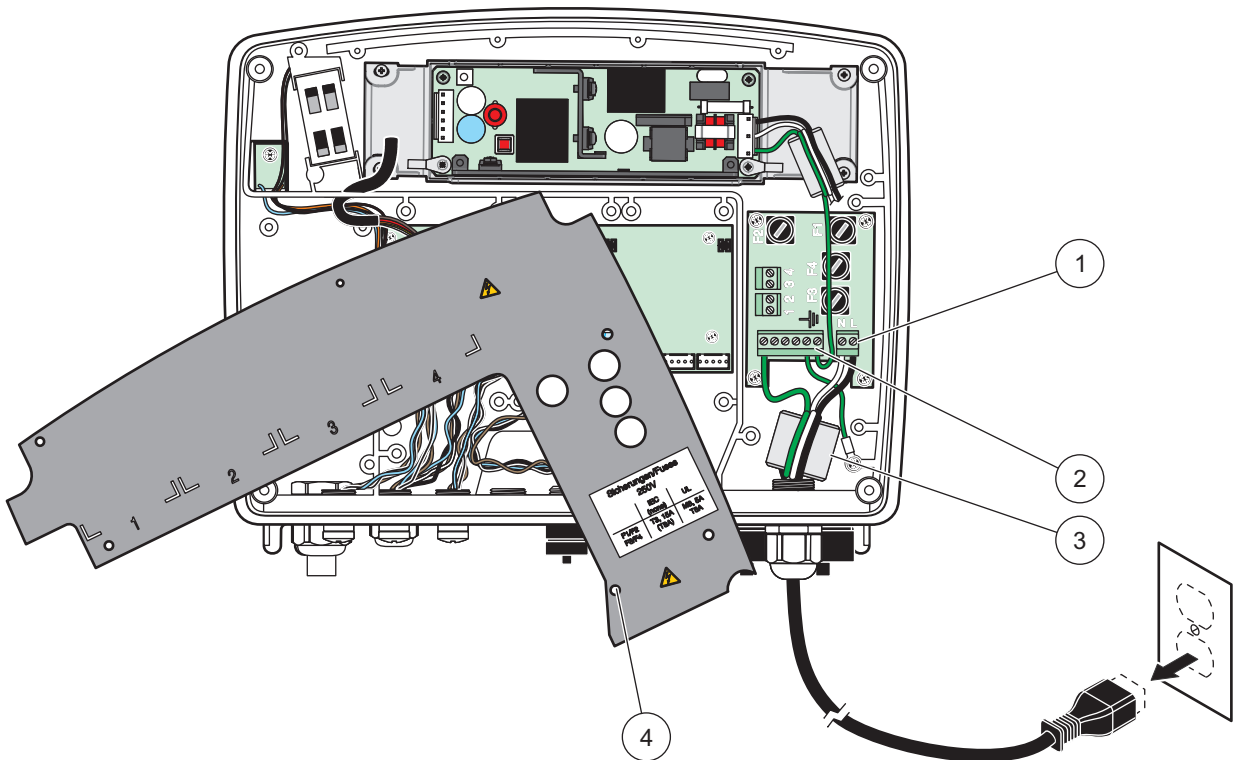
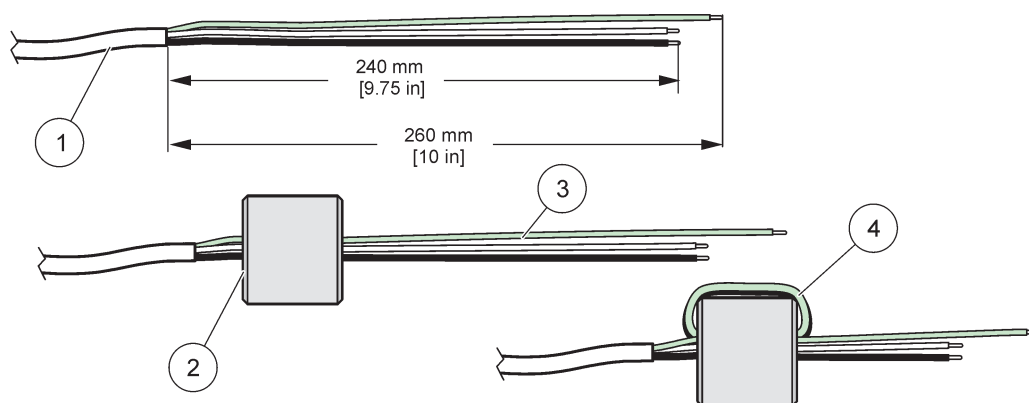

Figure 10 Wiring for power
Figure 12 Proper wire preparation and ferrite core wiring
6. Strip the cable outer insulation 260 mm (10 in.) (Figure 12). Shorten all wires except the earth wire 20 mm (0,78 in.), so the earth cable is 20 mm (0,78 in.) longer than the other cables.
7. Feed the stripped power cable through the ferrite core twice (Figure 12) and wire into the terminal as shown in Table 1 and Figure 10. Tug gently after each insertion to make sure that the connection is secure.
7. Feed the stripped power cable through the ferrite core twice (Figure 12) and wire into the terminal as shown in Table 2 and Figure 16. Tug gently after each insertion to make sure that the connection is secure.